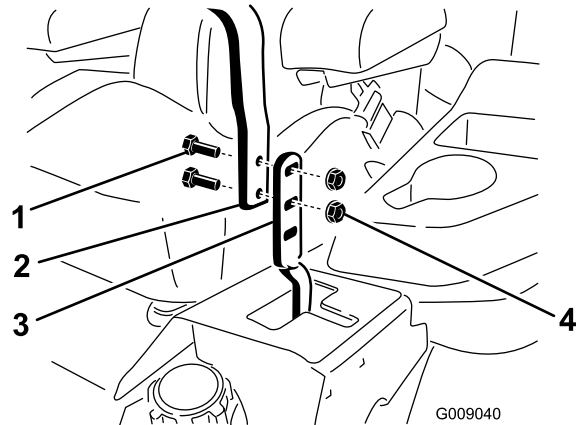

Figure 96
3. Loosen the bolts and flange nuts installed in the levers (Figure 96).